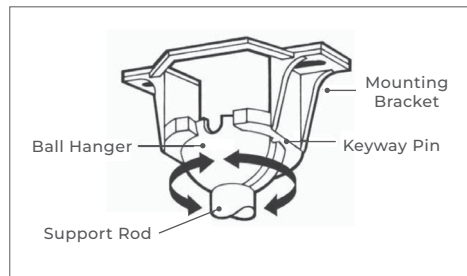

FIGURE 10
A) Insert the support rod in the side of the mounting bracket. Notice the ball hanger is grooved on one side (figure 10). This keyway fits over the small keyway pin on the inside of the mounting bracket and keeps ceiling fan from spinning on the mounting bracket.